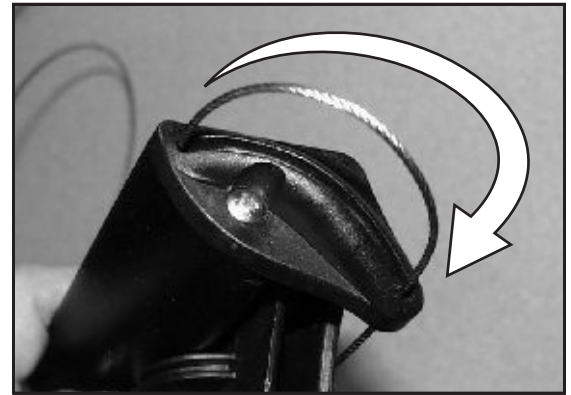

Figure 4. Cable threads out through top guide hole in front End Cap and back through lower guide hole.
b) Wrap the cable around the guide slot and back through the lower guide hole in the forward End Cap. (Fig. 4)